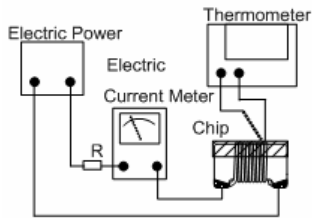

Fig. 6.3.4-1
- d. Definition of Rated Current (Irms): Irms is direct electric current as chip surface temperature rose just 40°C against chip initial surface temperature (T_a) (see **Fig. 6.3.4-2**).